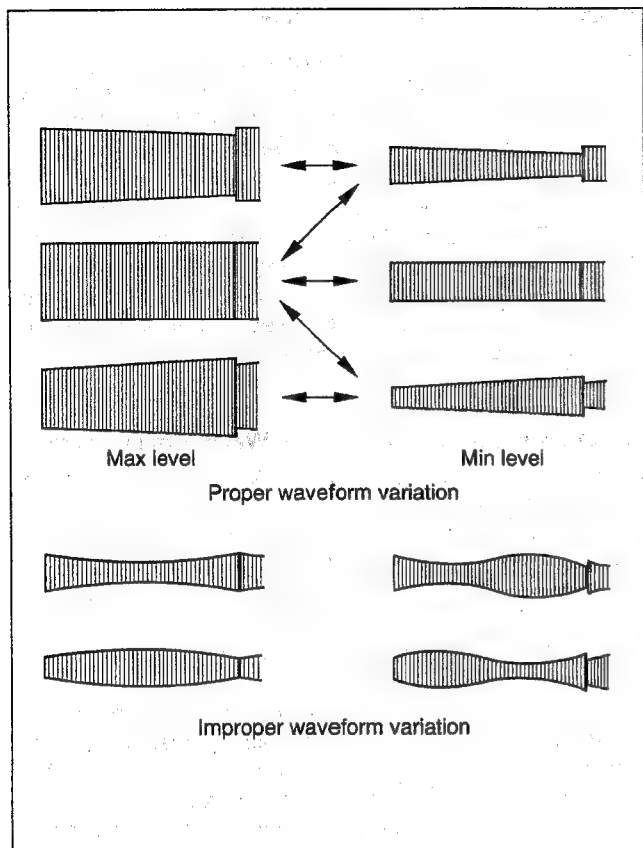

Fig. 2-4-1
- (1) Connect the oscilloscope to TP106(PB FM/COL) of the main board assembly and to TP111(D.FF) of the main board assembly for external sync connection.
- (2) Playing the alignment tape MHP, observe the FM waveform.
- (3) Press the channel buttons (+) and (-) buttons simultaneously during playback to enter the manual tracking mode (This also brings tracking to the center.)
- (4) Make sure that there is no significant level drop of the FM waveform caused by the tracking operation, with its generally parallel and linear variation ensured. Perform the following adjustments when required. (Fig.2-4-1)